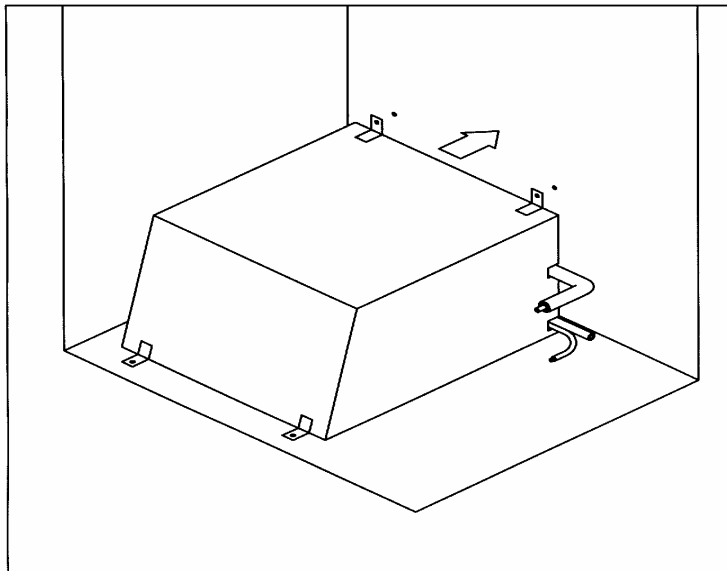

Figure 7. Refrigeration Unit Cover
2. Remove the refrigeration unit cover (see Figure 7).
1. Locate the notches on the back edge of the right side of the cover (see figure 7). Remove any putty from the notches. Do not discard the putty. It will be reinstalled in a later step.